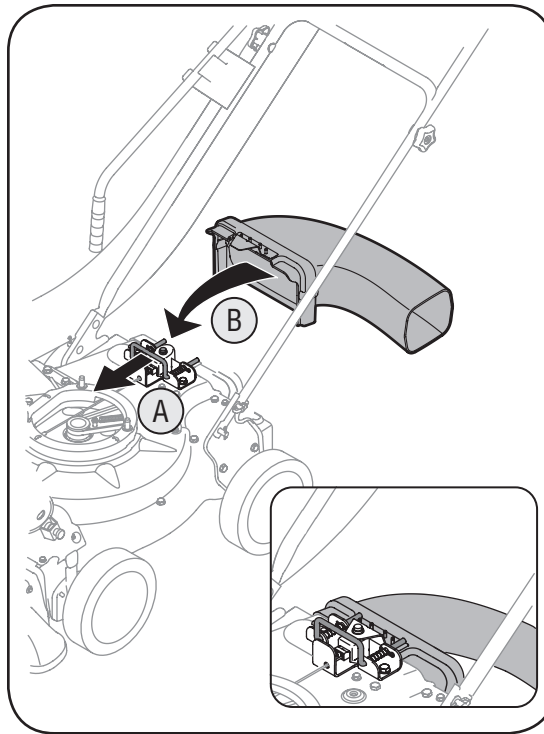

Figure 3-8
8. a. Grasp blower chute with one hand and slide locking rod on mounting bracket with other hand toward engine. Use the end of mounting bracket as leverage when sliding the locking rod. See Figure 3-8.